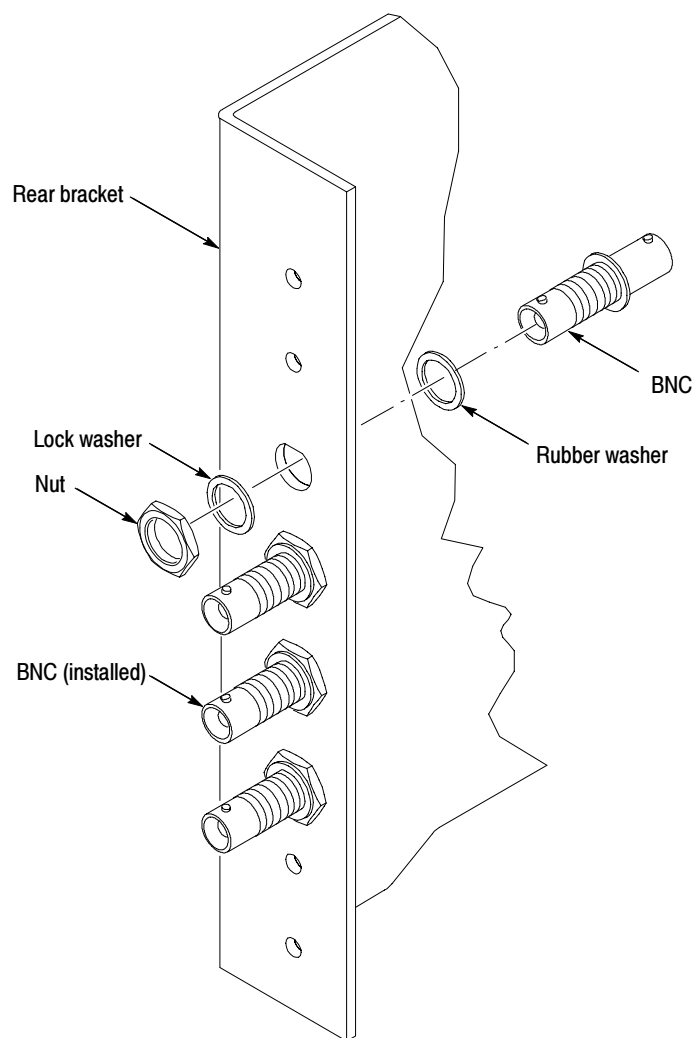

Figure 8: BNC and grommet installation (optional)
- a. *Assemble the hardware:* Unpackage and identify the BNC connector hardware in the cable feed-through kit (Tektronix part number 103-0070-XX) using Figure 8, page 15 as a guide.